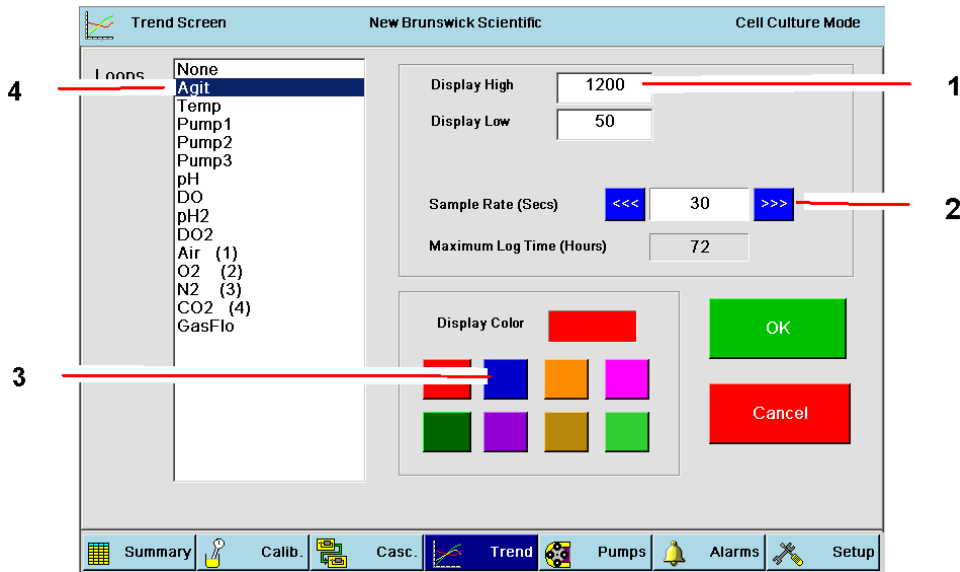

Fig. 51: Trend Setup Screen
3. In the Trend Setup screen that opens (see Fig. 51 on p. 64), select the loop from the list in the Loops pane.